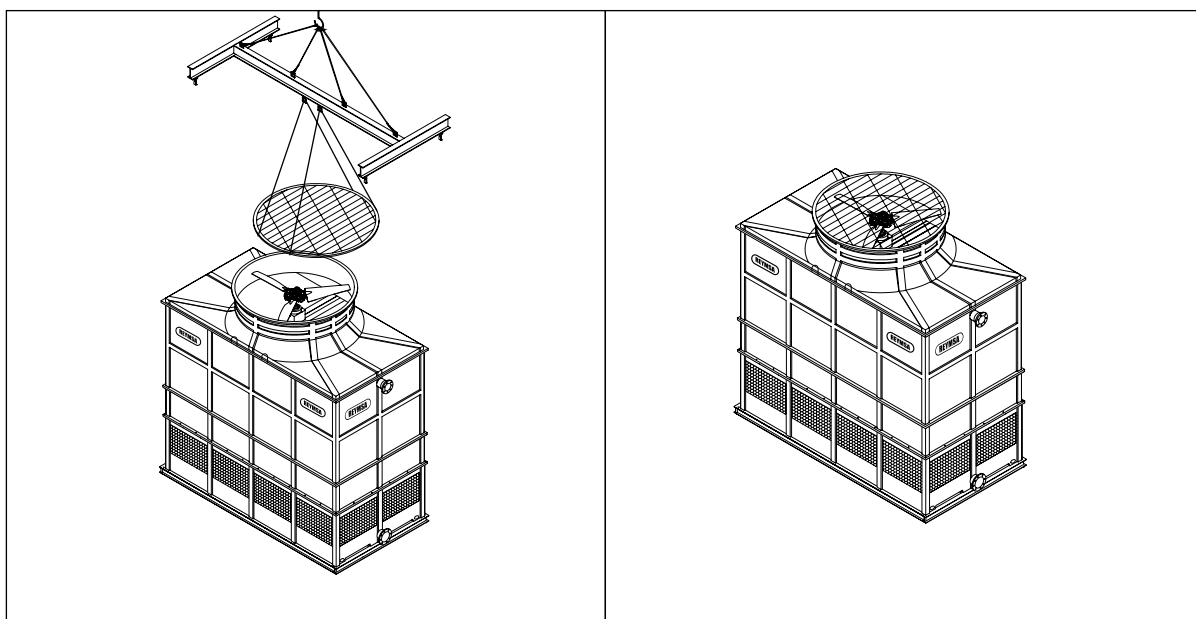

Figure A-53: Installation of the Fan guard on RTG and RTGTC model towers.
- X.** Place the fan guard over the duct section (see Figure A-53) and bolt it down (only for RTG-8 and RTGTC-8 wide models).